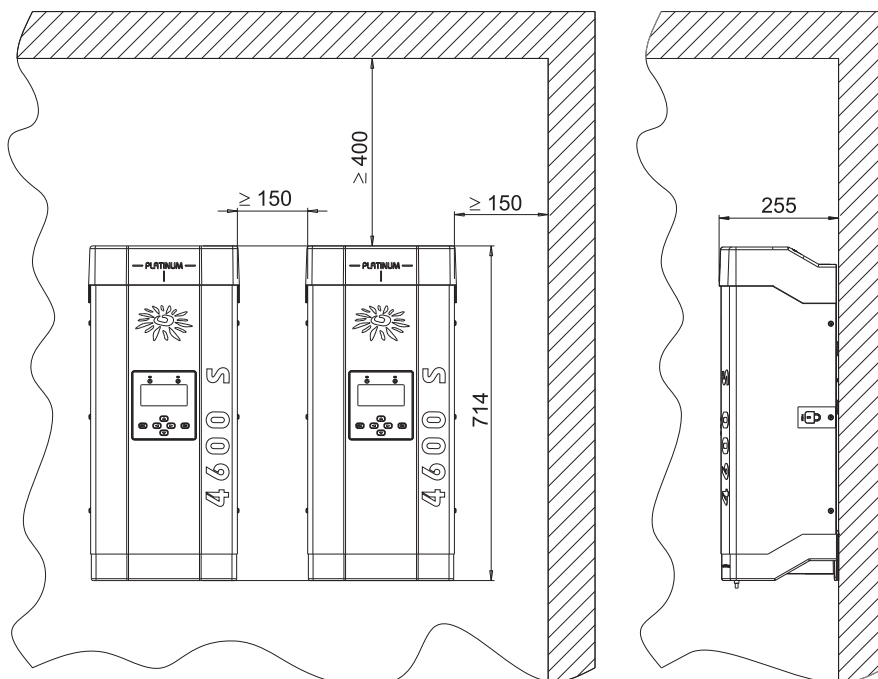

Fig. 2 Spacing between mounted inverters
- ➔ Verify that minimum distances are kept (see Fig. 2).